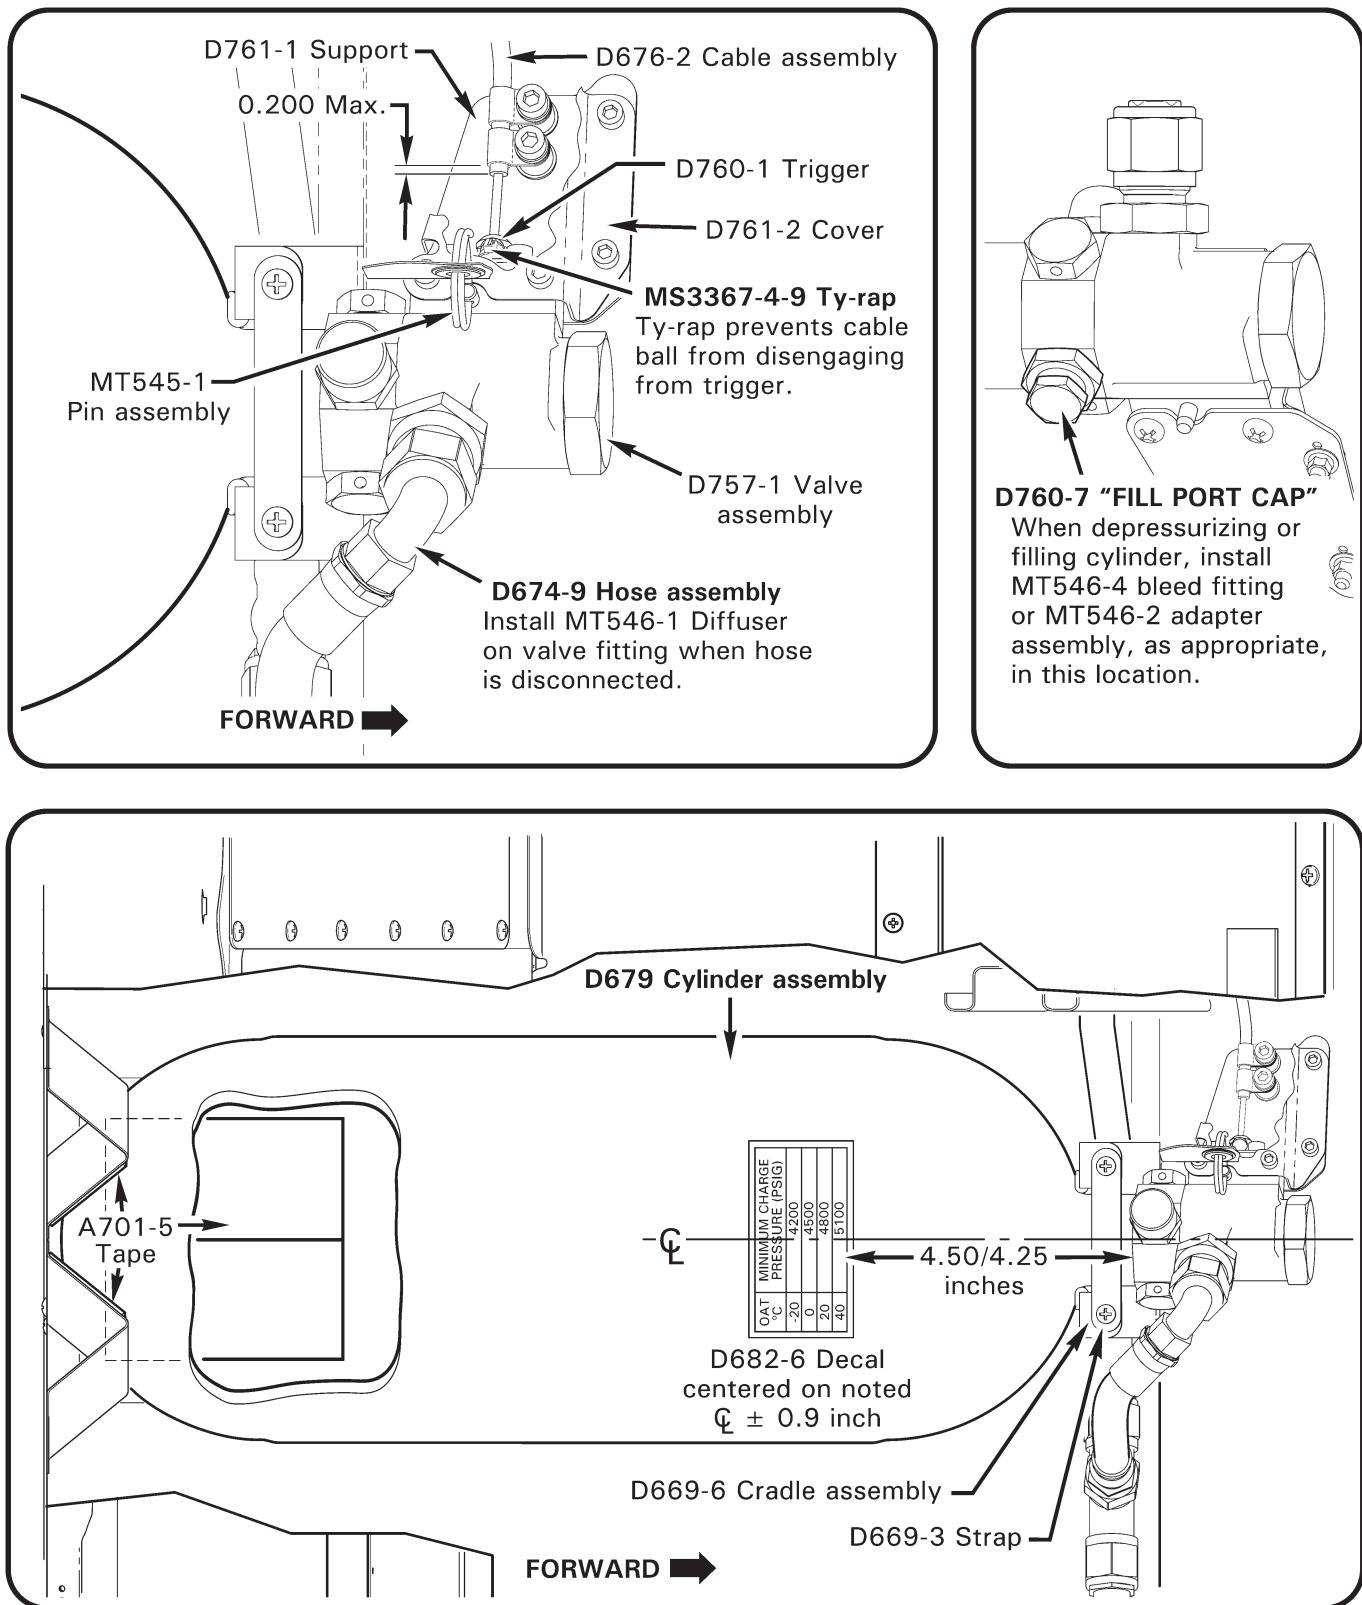

FIGURE 32-5 POP-OUT FLOATS CYLINDER ASSEMBLY
1. Refer to Figure 32-5. Hinge right aft seat assembly forward. Install MT545-1 pin assembly in D757-1 valve assembly.
2. Refer to Figure 32-5. Remove D760-7 cap (etched with "FILL PORT") from valve assembly. A loud pop may be heard when cap's seal is broken.
2. Refer to Figure 32-5. Install MT545-1 pin assembly in D757-1 valve assembly. Install MT546-1 diffuser on valve fitting and special torque diffuser to 120 in.-lb.
2. Refer to Figure 32-5. Install MT545-1 pin assembly in D757-1 valve assembly.